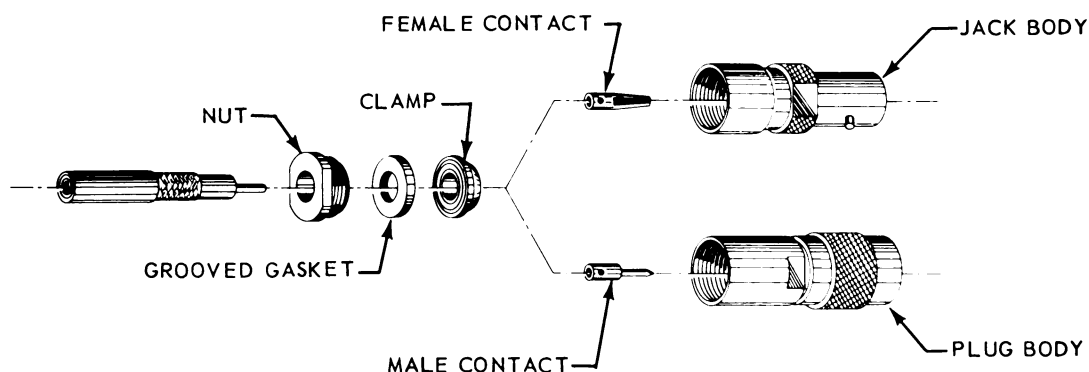

Figure 4-32. C Connectors - Exploded View
4-44. C CONNECTORS. (See Figure 4-4.) There is only one version of C connector. It consists of a body assembled to coaxial cable by means of a nut, gasket and sleeve clamp. Table XXIX lists the more common connectors in the C series and shows the coaxial cables associated with each. Plug UG-573A/U and Jack UG-572/U are typical C connectors. See Figure 4-32.
- a. Disassemble nut, gasket and sleeve clamp from plug or jack body. See Figure 4-32.